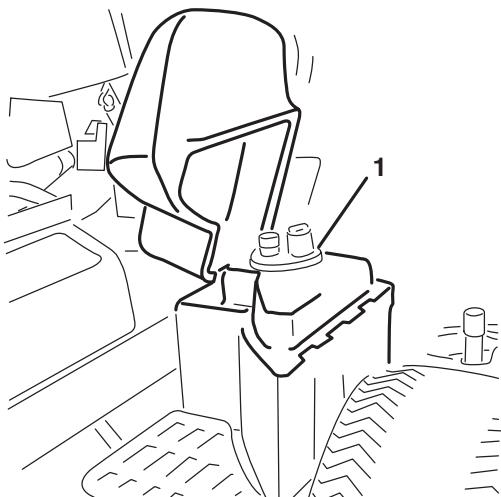

Figure 2
3. Thoroughly clean the top of the hydraulic tank around the tank cap (Fig. 2).